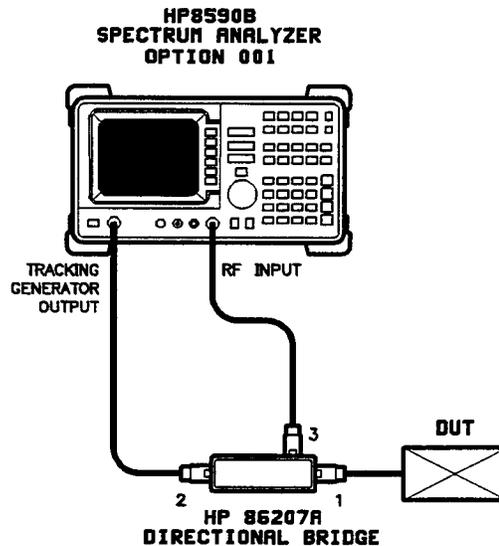

Figure 2-6. Reflection Measurement Setup
1. Connect the equipment as shown in Figure 2-6.